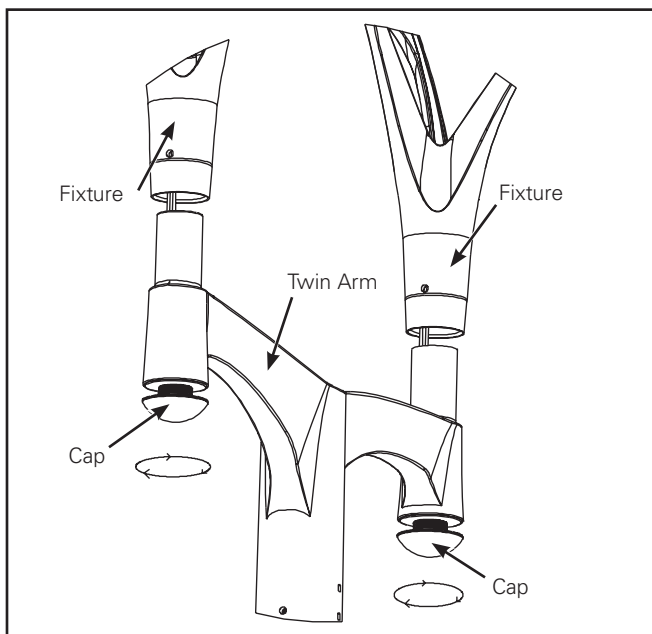

Figure 15.
- Once connections are completely made, carefully push all the wires back into the arm's hole where the cap was removed from. Tighten the caps to close twin arm's holes. (Figure 15.)